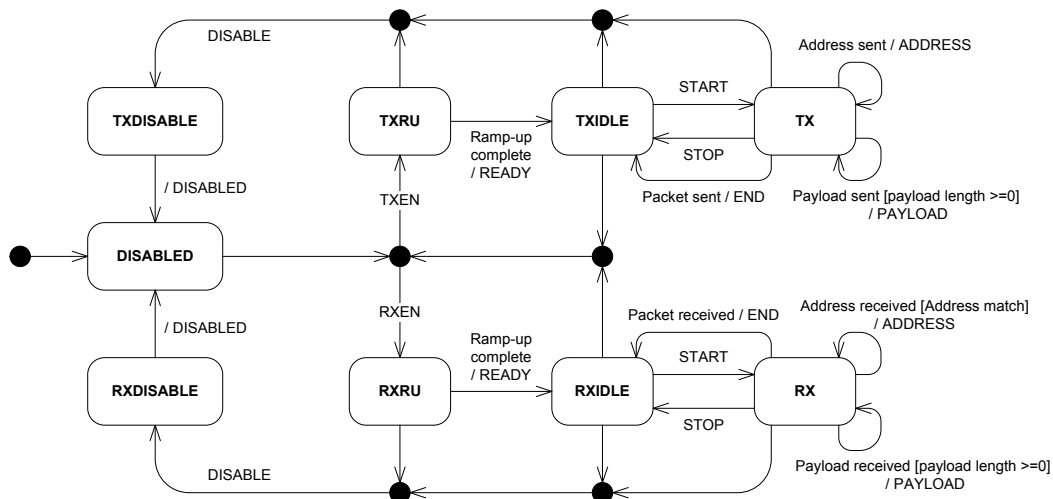
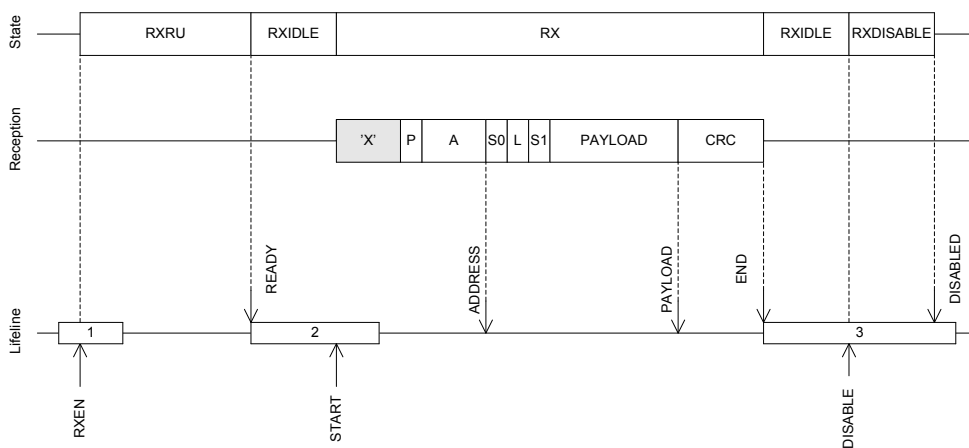

Figure 34: Radio states
Figure 38: Receive sequence
The RADIO can enter the states described the table below. An overview state diagram for the RADIO is illustrated in *Figure 34: Radio states* on page 209. This figure shows how the tasks and events relate to the RADIO's operation. The RADIO does not prevent a task from being triggered from the wrong state. If a task is triggered from the wrong state, for example if the RXEN task is triggered from the RXDISABLE state, this may lead to incorrect behaviour. As illustrated in *Figure 34: Radio states* on page 209, the PAYLOAD event is always generated even if the payload is zero.
See TXRU in *Figure 34: Radio states* on page 209 and *Figure 35: Transmit sequence* on page 210.
A TXRU ramp-up sequence is initiated when the TXEN task is triggered. After the radio has successfully ramped up it will generate the READY event indicating that a packet transmission can be initiate. A packet transmission is initiated by triggering the START task. As illustrated in *Figure 34: Radio states* on page 209 the START task can first be triggered after the RADIO has entered into the TXIDLE state.
See RXRU in Figure 34: Radio states on page 209 and Figure 38: Receive sequence on page 211.
An RXRU ramp-up sequence is initiated when the RXEN task is triggered. After the radio has successfully ramped up it will generate the READY event indicating that a packet reception can be initiated. A packet reception is initiated by triggering the START task. As illustrated in Figure 34: Radio states on page 209 the START task can, first be triggered after the RADIO has entered into the RXIDLE state.
Figure 38: Receive sequence on page 211 illustrates a single packet reception where the CPU manually triggers the different tasks needed to control the flow of the RADIO, i.e. no shortcuts are used. If shortcuts are not used, a certain amount of delay, caused by CPU execution, is expected between READY and START, and between END and DISABLE. As illustrated Figure 38: Receive sequence on page 211 the RADIO will be listening and possibly receiving undefined data, illustrated with an 'X', from START and until a packet with valid preamble (P) is received.
A slightly modified version of the receive sequence from Figure 38: Receive sequence on page 211 is illustrated in Figure 39: Receive sequence using shortcuts to avoid delays on page 212 where the the RADIO is configured to use shortcuts between READY and START, and between END and DISABLE, which means that no delay is introduced.